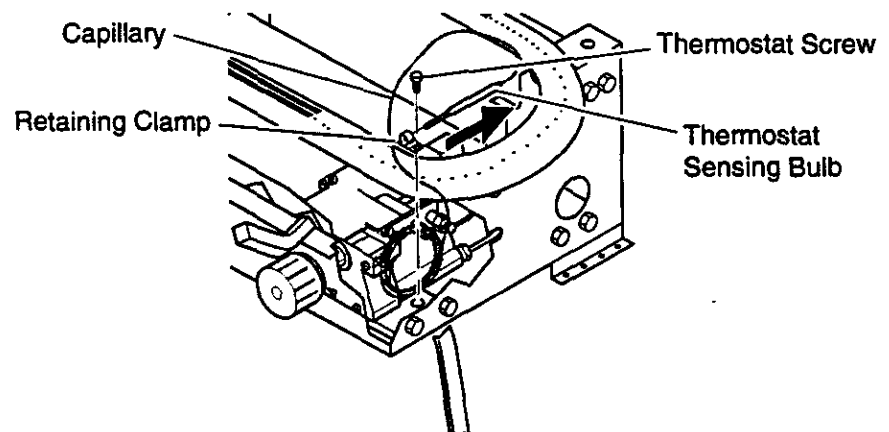

Figure 29 - Removing Thermostat Sensing Bulb
3. With 1/4" hex driver or socket, loosen the thermostat screw. Carefully slide the thermostat sensing bulb out of the retaining clamp (see Figure 29).